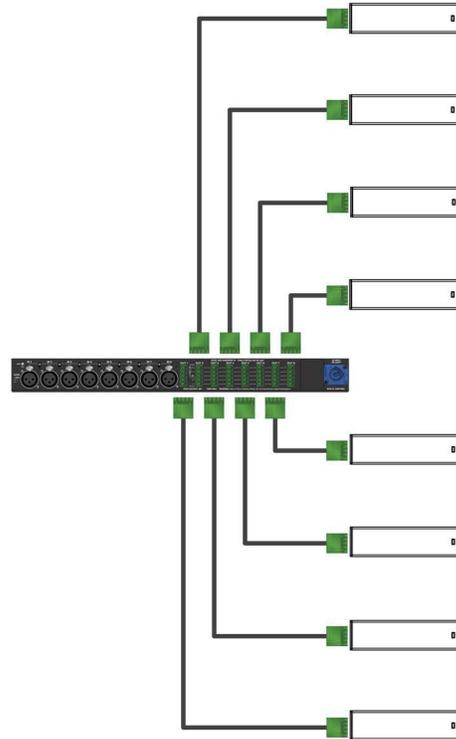

Figure 11: MPS-488HP with Eight UP-4slim Loudspeakers
4. Connect the UP-4slim loudspeakers to the MPS-488HP Channel Outputs (Figure 11).